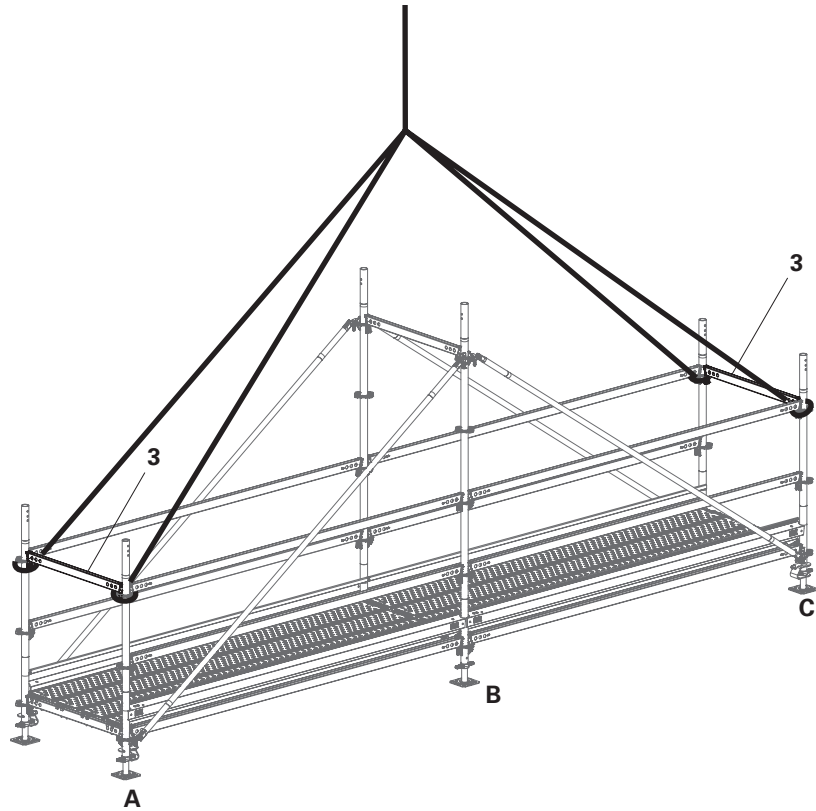

Fig. A2.01
2. Attach with textile lifting gear, e.g. round sling, beneath the uppermost rosettes of the edge frame columns (**A + C**). (Fig. A2.01)